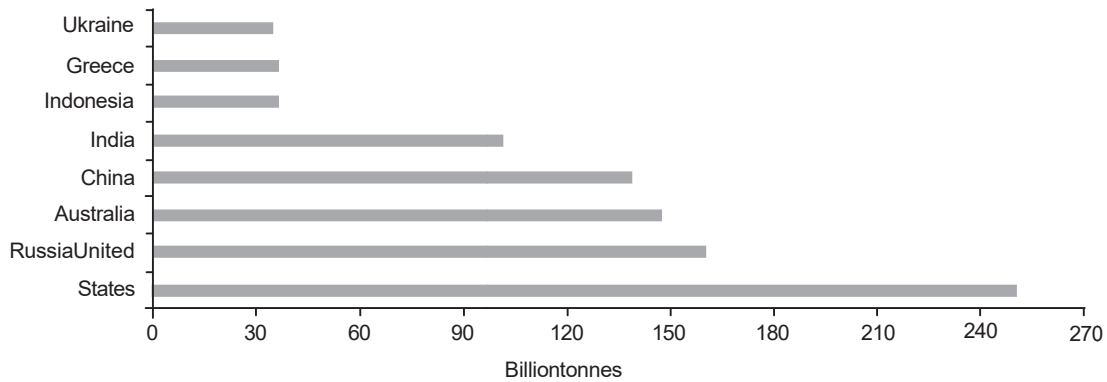

Fig. 1.5.3 Proved reserves of coal at end 2018
- India has the world's fifth largest proved recoverable reserves of coal, at an estimated 101 billion tonnes (See Fig. 1.5.3 on next page).